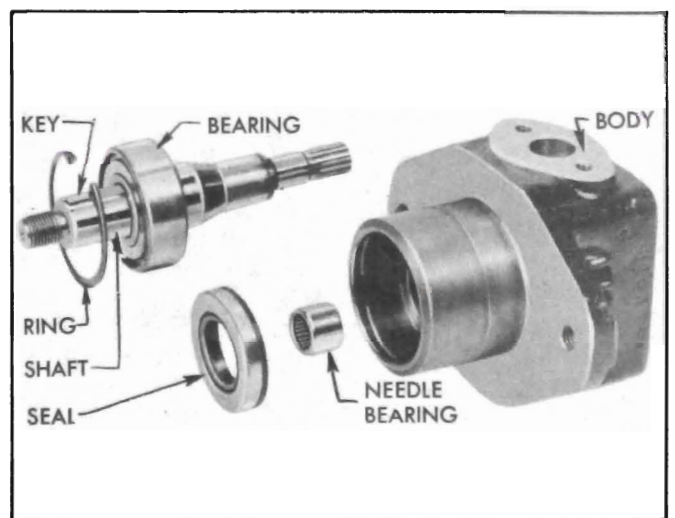

Figure 8-44—Drive Shaft, Bearings and Seal
3. Make certain the bearings and shaft seal are firmly seated in their proper position. After the inner needle bearing is installed, the shaft seal must be installed with the word "outside" toward the front of the pump. Immerse the seal in Dynaflo Oil before installation. Using Installer J-6348 drive seal into body. See Figure 8-44.